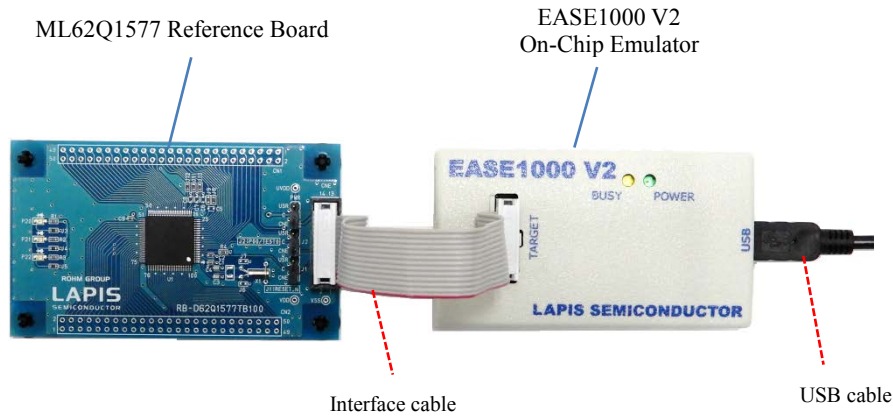

Figure 1 ML62Q1000 MCU Starter Kit hardware configuration
- 3-1. As shown in figure 1 and figure 2, connect the ML62Q1577 Reference Board to the EASE1000 V2 On-Chip Emulator (hereinafter “EASE1000”).